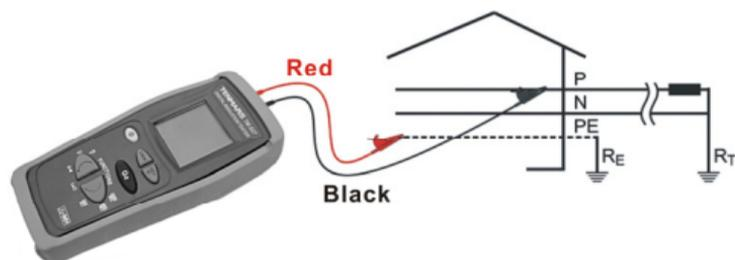

Fig. 3: Connection of the instrument's terminals during \tilde{V} test.
5. Connect the cables to the desired points of the circuit under test as shown in Fig. 3.